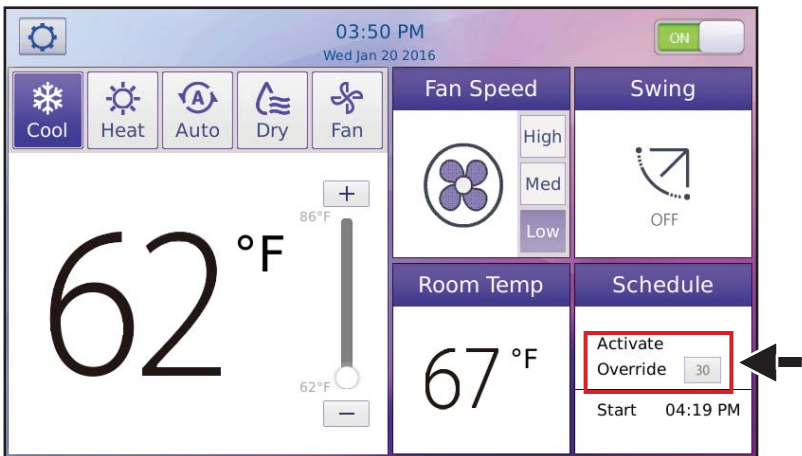

Figure 63. Example: Allow Users to Select Only 30 Minute Override-Period
- To limit the user to only one override period, tap the appropriate button. See figure 63.